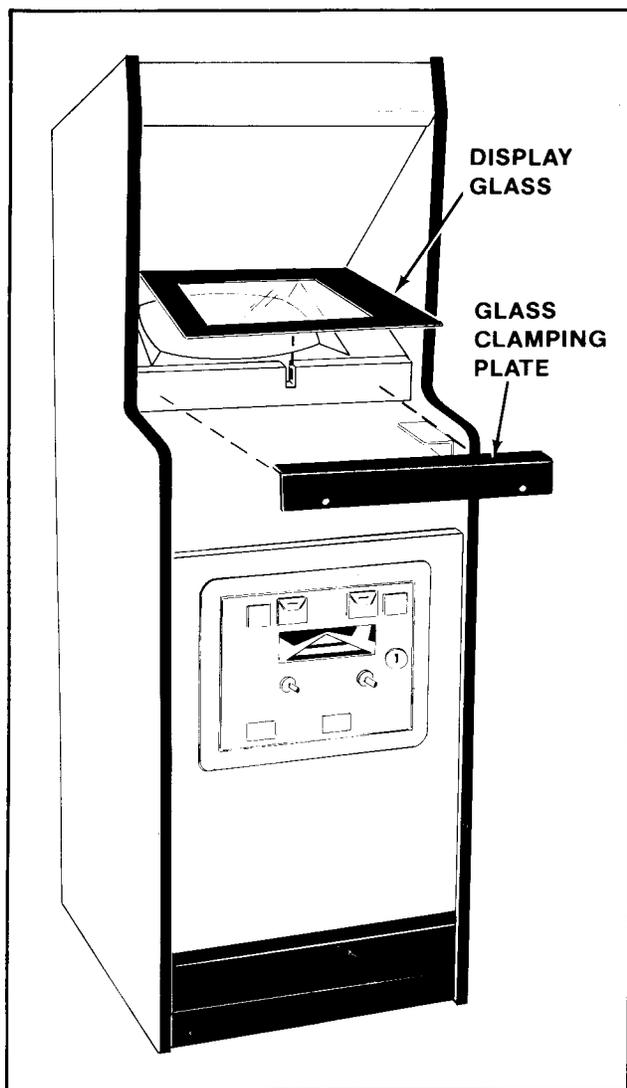

Figure 4-7 Removing Main-Display-Glass & T.V. Bezel — Mini
- Remove the screws which secure the glass clamping plate. See Figure 4-7.